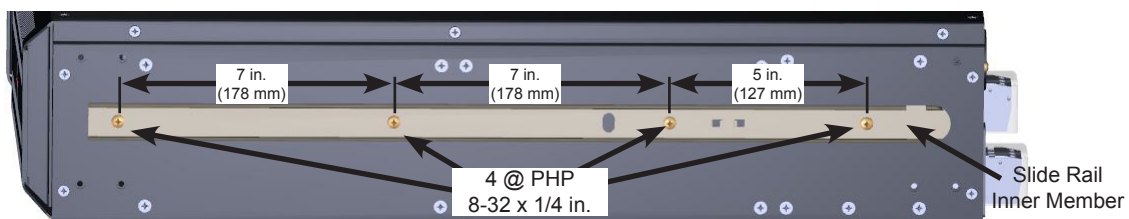

FIGURE 3: INSTALL INNER SLIDE MEMBER ON LEFT AND RIGHT SIDES OF MODULE(S)
2. Attach an EZ Rail to each side of the UPS module using 4 x Phillips 8-32 x 1/4". Orient the inner Slide Member so the rounded end is towards the rear of the module. (Figure 3)